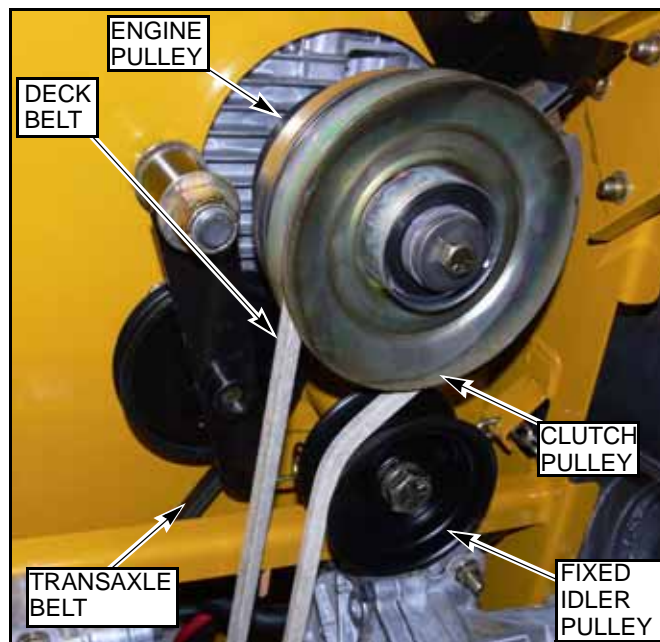

Fig. 9-19
5. Remove fixed idler pulley. Fig. 9-19
6. Release the tension from the transaxle belt by pulling on the idler pulley (extending spring carefully) and sliding the belt over it. Use caution when releasing the idler pulley as there is still tension on it and it will snap back into position. Fig. 9-19
7. Slide the belt off the engine pulley. The belt will have to be slid above the engine pulley to allow the belt to be removed from the other pulleys. Fig. 9-19